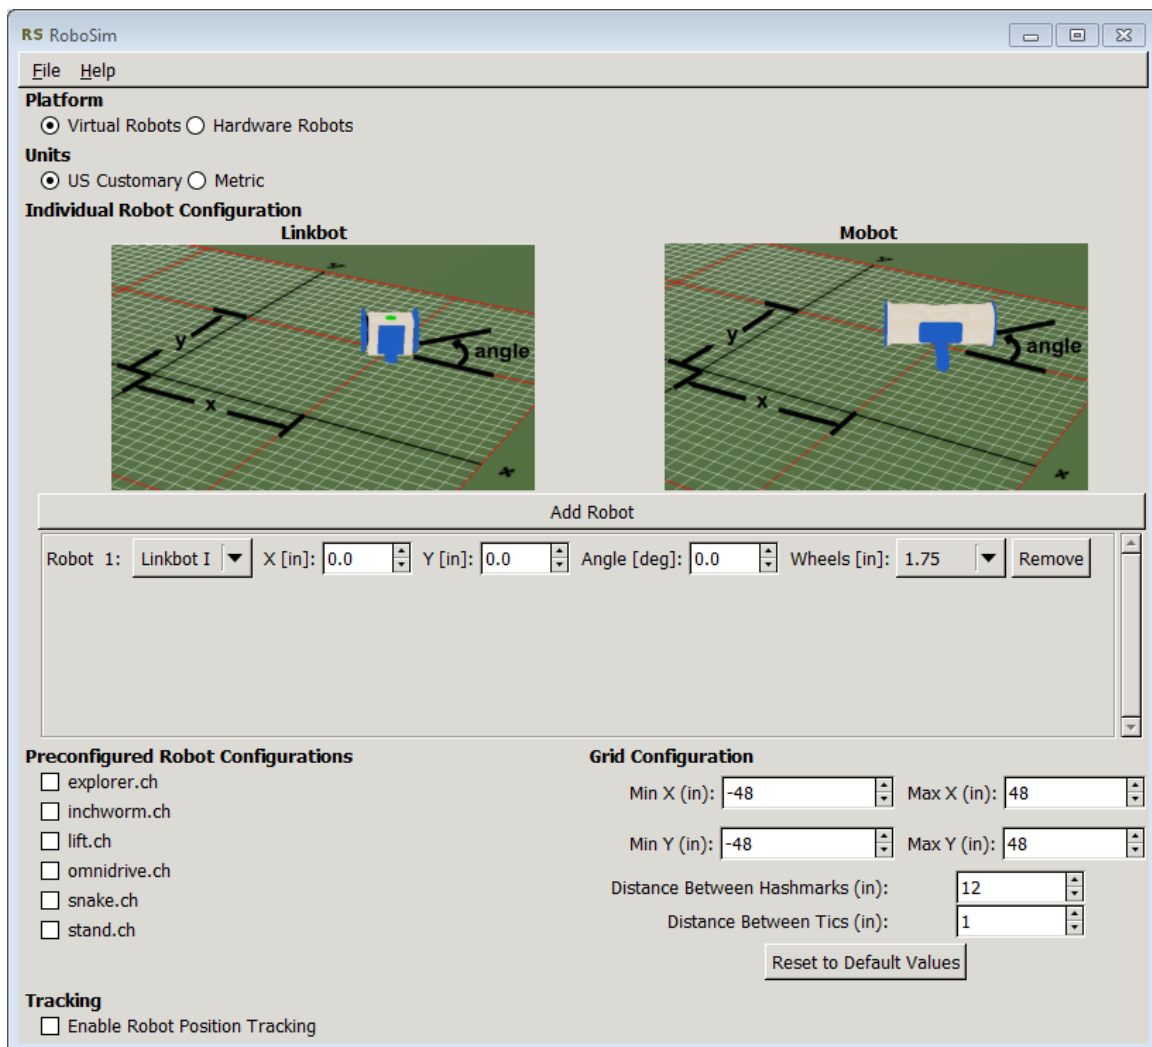

Figure 1: The RoboSim GUI.
RoboSim can be conveniently launched by double clicking its icon **RS** on the desktop. The RoboSim graphical user interface (GUI), shown in Figure 1, allows the user to change between hardware and virtual robots when a Ch robot program is executed. There is no save button within the GUI, all changes made are automatically saved.
**Tracking** where robots have been can be enabled by selecting the check box 'Enable Robot Position Tracking', as shown in Figure 1. When the tracking is enabled, lines following the robot trajectories will be drawn for each robot. Mobot tracking lines will be in a green color and Linkbot tracking lines will be in the color matching the Linkbot LED.